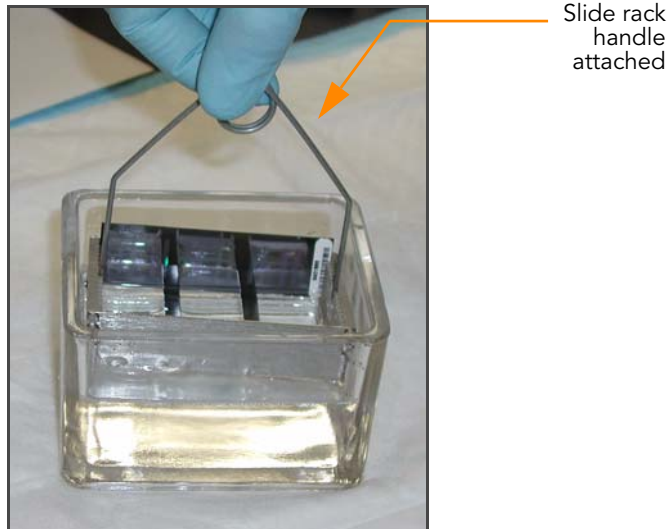

Figure 34 Washing BeadChip in Diluted Wash E1BC Buffer
1. After the 10-minute incubation in High-Temp Wash buffer is complete, immediately transfer the slide rack back into a staining dish containing 250 ml fresh Wash E1BC buffer (Figure 34).